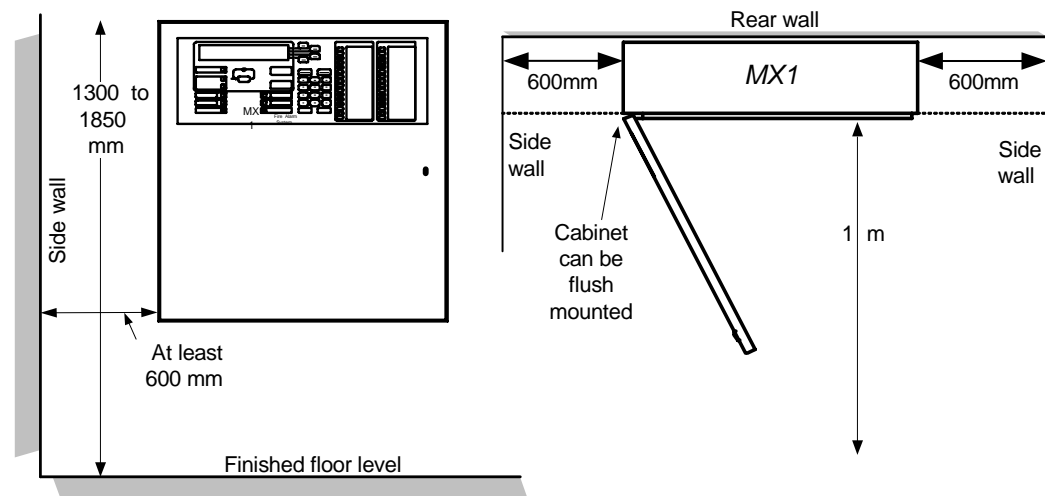

Figure 10-1 – Recommended clearances
- Allow the LCD to be at typical eye level (see Figure 10-1).